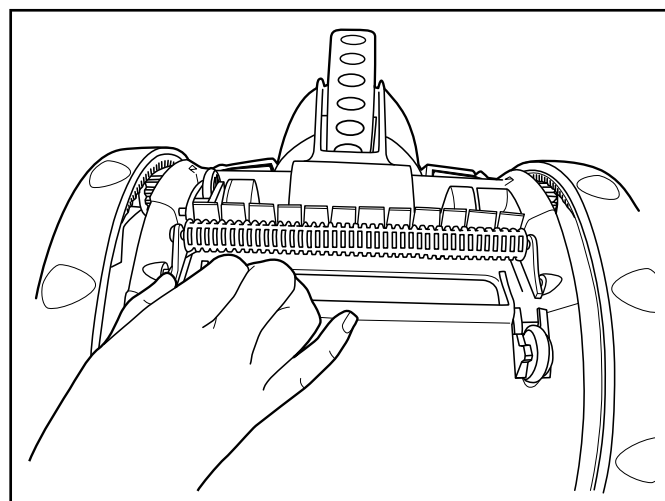

Figure 15. Push Brush Arm
1. Place the cleaner upside-down so that you can access the brush. Refer to Figure 15.
2. Push on one of the arms of the brush to remove its shaft from the bushing, as shown in Figure 15.